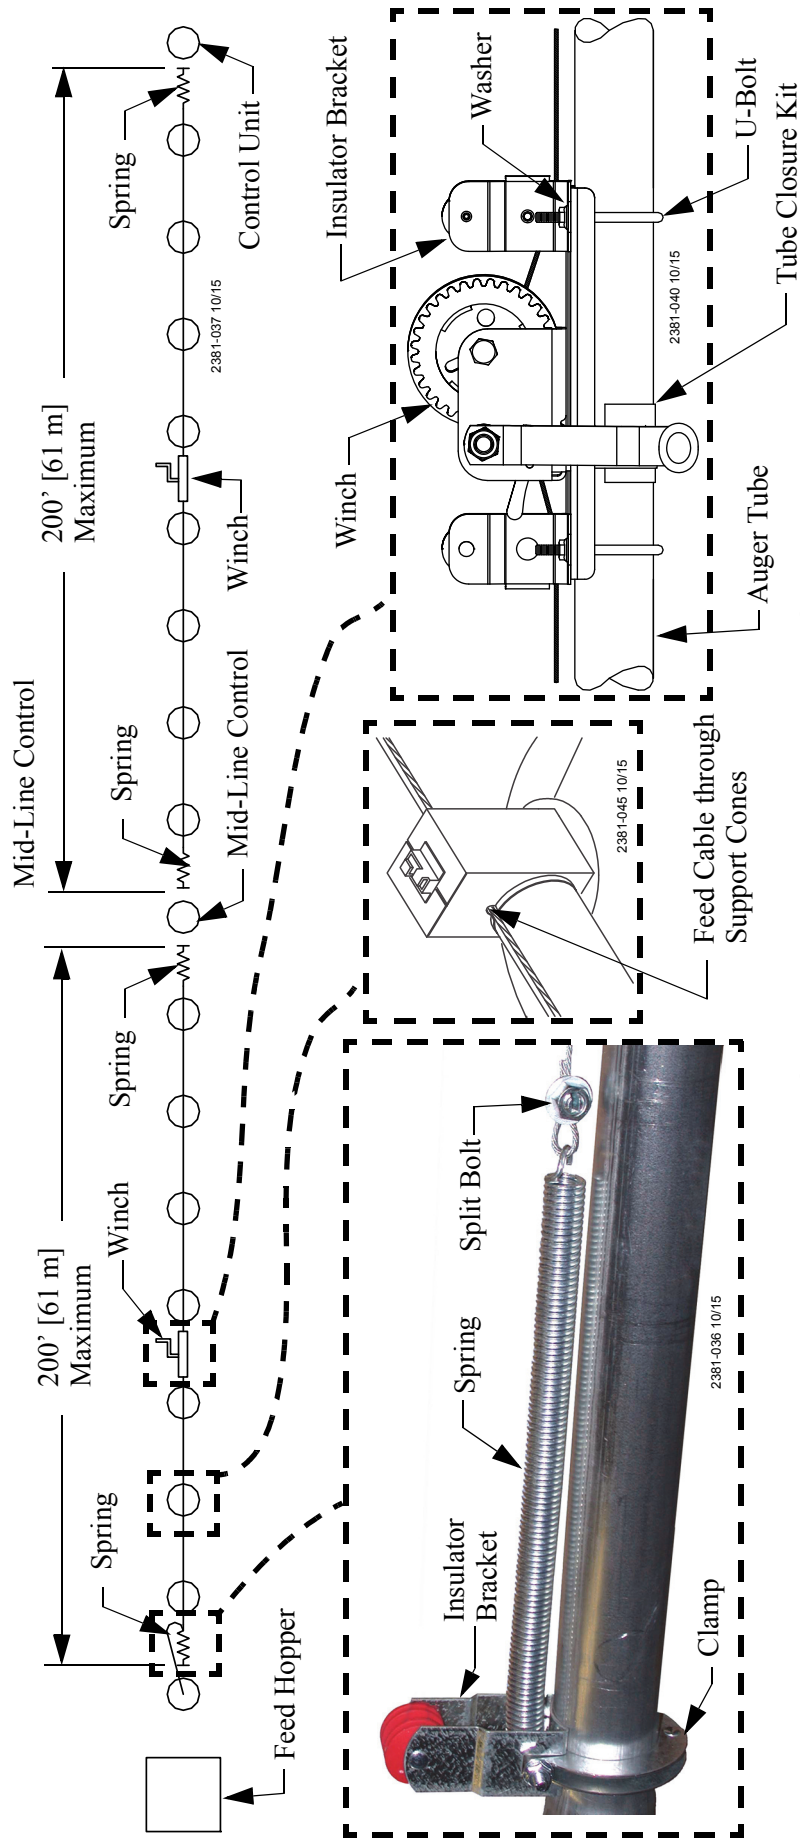

Figure 46. Installation of the Winch Adjustable Feed Level Tube System
Chore-Time's Adult Turkey Feeder can be equipped to provide winch adjustable Feed Level Cones. New systems can be ordered with this feature. Existing systems can be (easily) upgraded to include feed level cone winching components. The Feed Level Cones are adjusted using a Winch and cable. The maximum line length for each Winch is 200' (61 m). The Winch should be located in the middle of the line of Feeders it is to adjust, See **Figure 46**.
1. Install a Spring at one end of the Feeder Line and attach the end of the Cable to it as shown in **Figure 46**.
2. Use two U-bolts provided to fasten the winch to the Feeder Line Tube, See **Figure 46**. The winch should be placed in the center of the line of Feed Level Cones it will adjust, as shown in **Figure 46**.